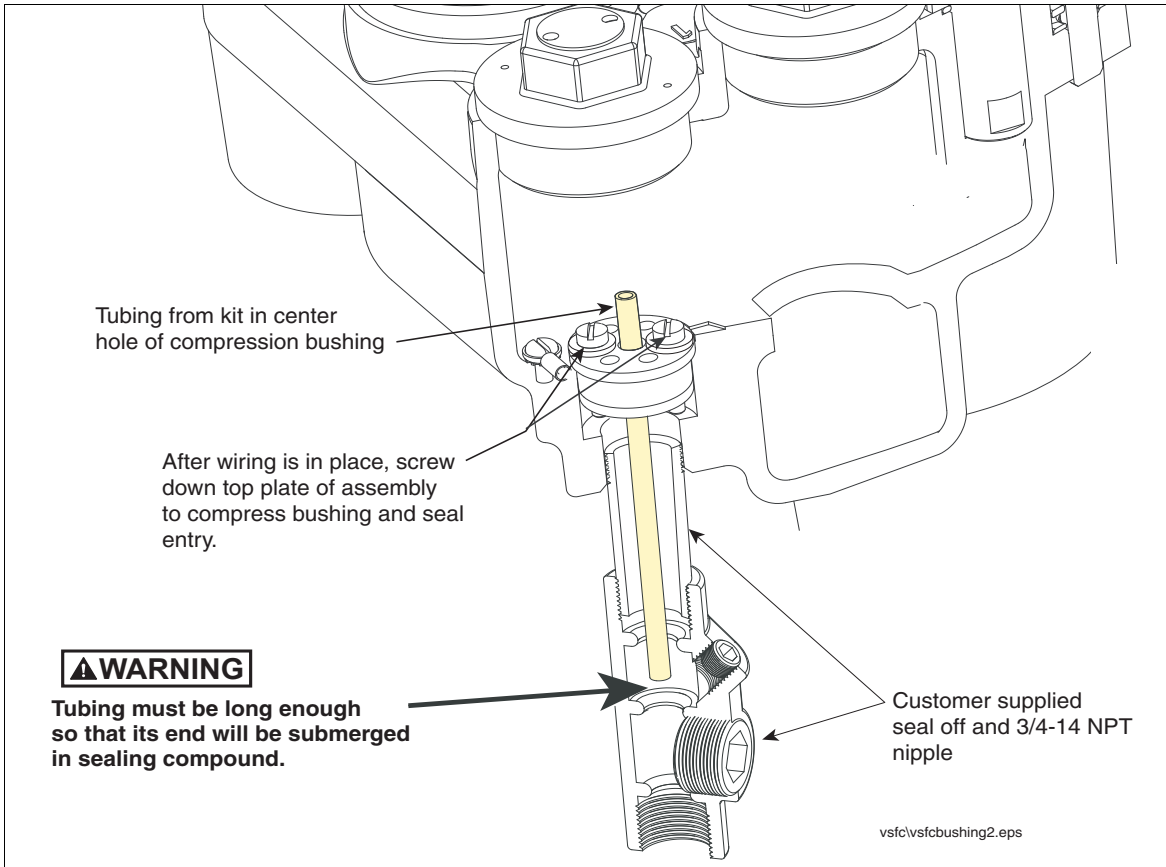
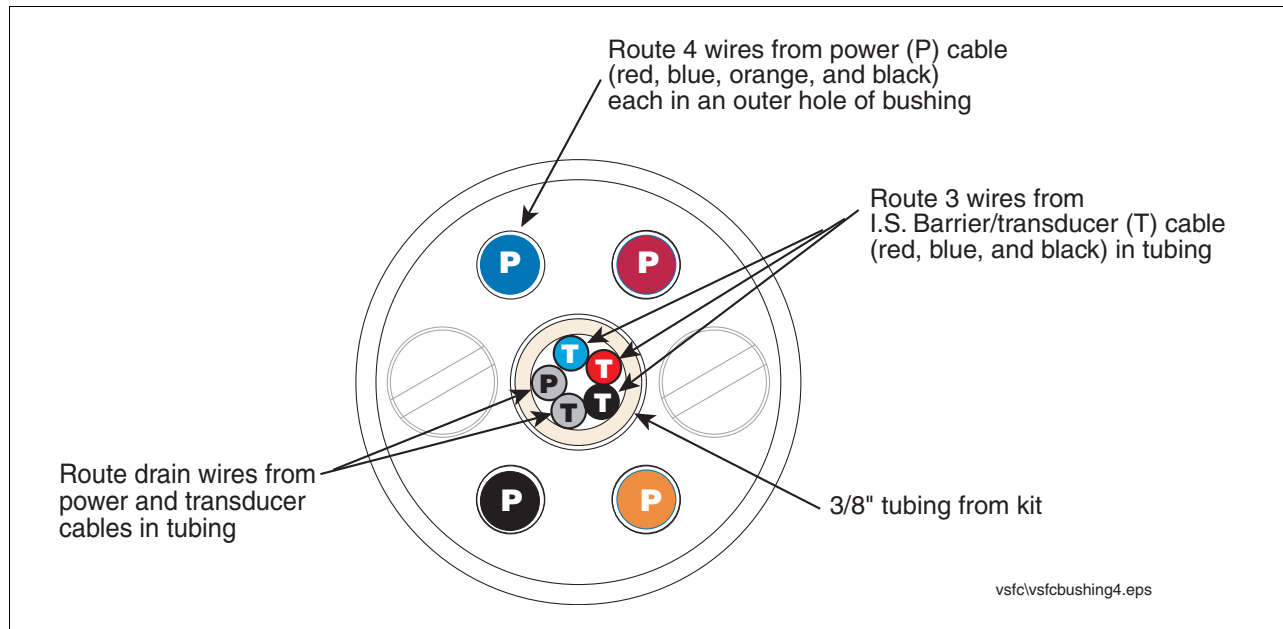

Figure 17. Installed Tubing From Kit In Compression Bushing
Figure 19. Recommended Power Wire/I.S. Barrier (Transducer) Wire Entry Through The Compression Bushing
3. The compression bushing is used to water seal the wiring entry port of the VSFC STP. Figure 17 through Figure 19 illustrate the recommended installation of the bushing in the VSFC STPs with and without an I.S. Barrier.